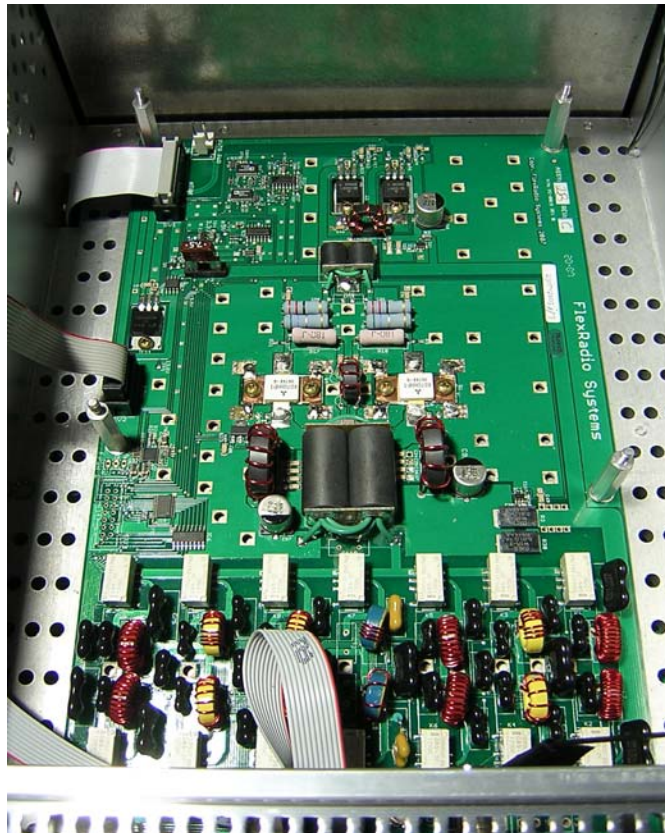

Figure 1 - PA w/ 1" spacers installed.
Step 4. Once the side panels have been removed, remove the top panel by using a T-20 torque driver (try a 1/8" wide flat blade screwdriver if you do not have a torque driver) to remove the two (2) screws on the left and the two (2) on the right. Then lift the top panel straight up and away from the unit. Do not remove the FLEX-5000 bottom cover.
Step 5. Remove the four (4) nuts that are holding down the PA board, but leave the flat washers in place. Do not discard the hex nuts.
Step 6. Install one of the four (4) 1" (2.54 cm) spacers in place of the four nuts that were just removed. Take care not to over-tighten the spacers, so that you do not strip the threads. (See Figure 1)
Step 7. Plug one end of the ATU control ribbon cable into the keyed connector marked "SV2" on the edge of the PA unit. The red strip of the cable is oriented towards the front of the FLEX-5000. You can see the ribbon cable plugged into SV2 on the left side of Figure 1 above, just behind the 1" (2.54 cm) spacer. Lay the cable over the side of the FLEX-5000 chassis as shown in Figure 1.